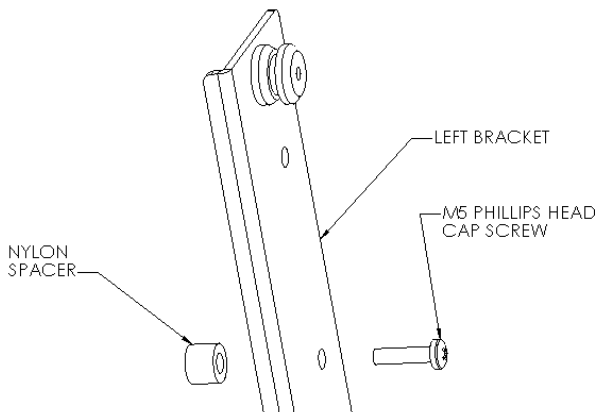

Figure 4
2. Remove existing mounting buttons from back of display. Place nylon spacers on mounting holes and align hole pattern on brackets with pattern on back of Plasma Display (See Figures 4 & 5). Attach bracket utilizing the M5 phillips head screws.